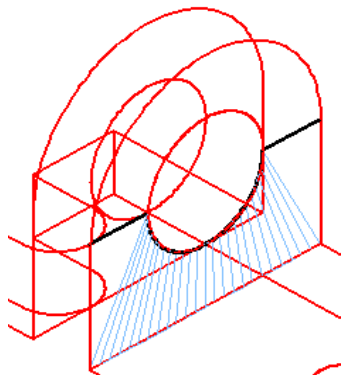

Figure Step 19
Step 19 On layer Surface, insert a ruled surface as shown in Figure Step 19.